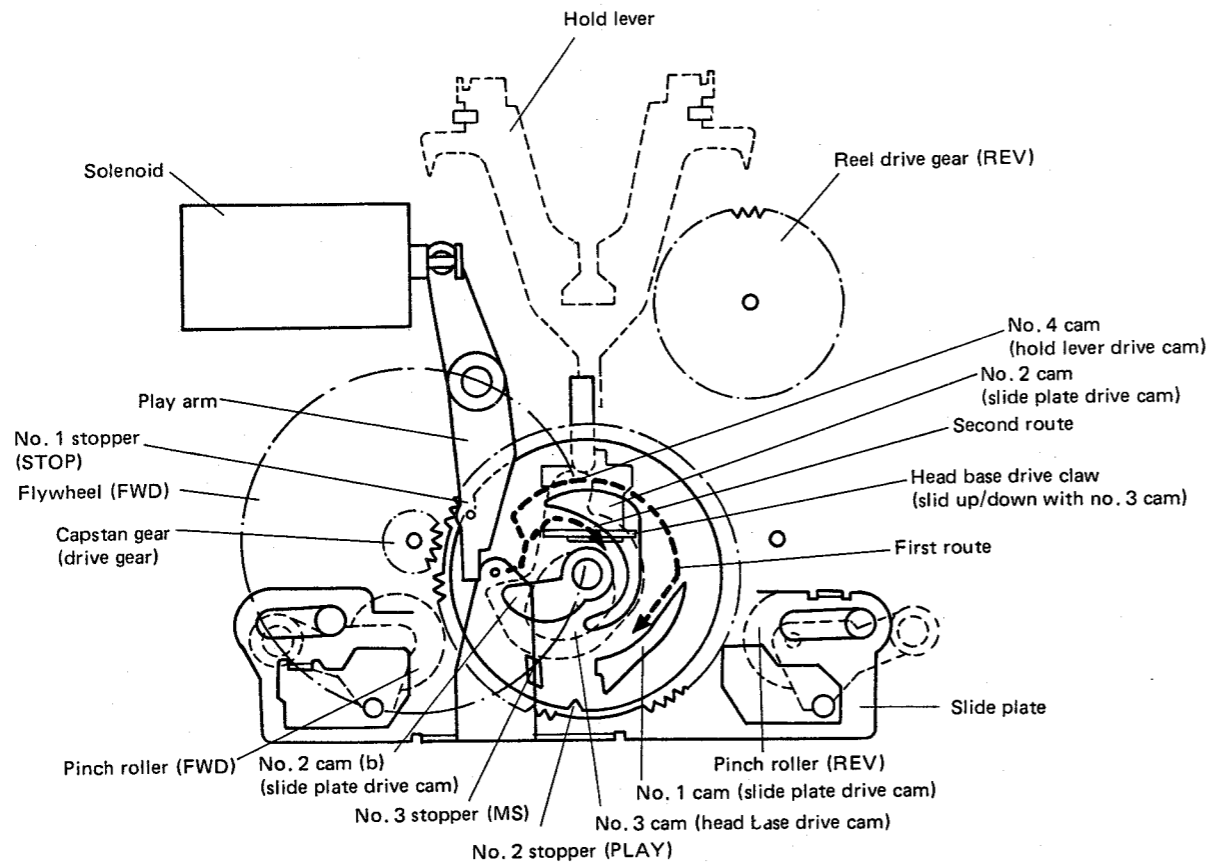

Fig. 1-3 Stop mode
The cam drive system as seen from behind is outlined in Fig. 1-3. The cam gear is stopped when no. 1 cam gear stopper is engaged with the play arm pin (the position shown in the diagram).
- (1) If the STOP key is pressed when changing from forward, playback to music search mode, the solenoid is deactivated and the play arm pin is disengaged from no. 3 cam gear stopper, resulting in the cam gear being forced counter clockwise by the head base.
- (2) Since the hold lever is released from no. 4 cam when the cam gear is rotated, the hold lever is dropped suddenly resulting in the two hold lever prongs engaging the reel drive gear (FWD, REV) to apply the brake.
- (3) The cam gear rotation also results in the head base and pinch roller being dropped to the STOP position by no. 3 cam.
- (4) After the cam gear has been rotated by about 105°, the play arm pin meets no. 1 stopper bringing the cam gear to a stop and putting the deck into stop mode (see Fig. 1-3). In this condition, the brake is released by no. 4 cam.
- (1) If the STOP key is pressed when changing from reverse playback to music search mode, the solenoid is deactivated and the play arm pin is disengaged from no. 3 cam gear stopper, resulting in the cam gear being forced counter clockwise by the head base.
- (4) The slide plate is shifted across to the left by no. 2 cam (b) of the cam gear, and the revolving head is reverted to the FWD direction.
- (5) After the cam gear has been rotated by about 105°, the play arm pin meets no. 1 stopper bringing the cam gear to a stop and putting the deck into stop mode (see Fig. 1-3). In this condition, the brake is released by no. 4 cam.